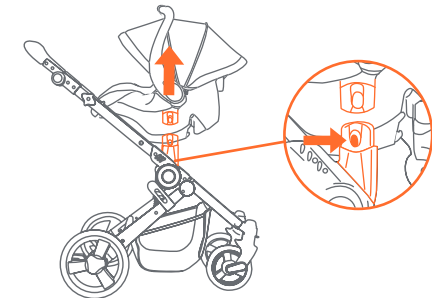

Fig. 18
18) • To take off the seat or the infant car seat, push both center buttons on each side of the seat and lift the seat upwards (Fig. 18). **DO NOT** remove with child in the seat.